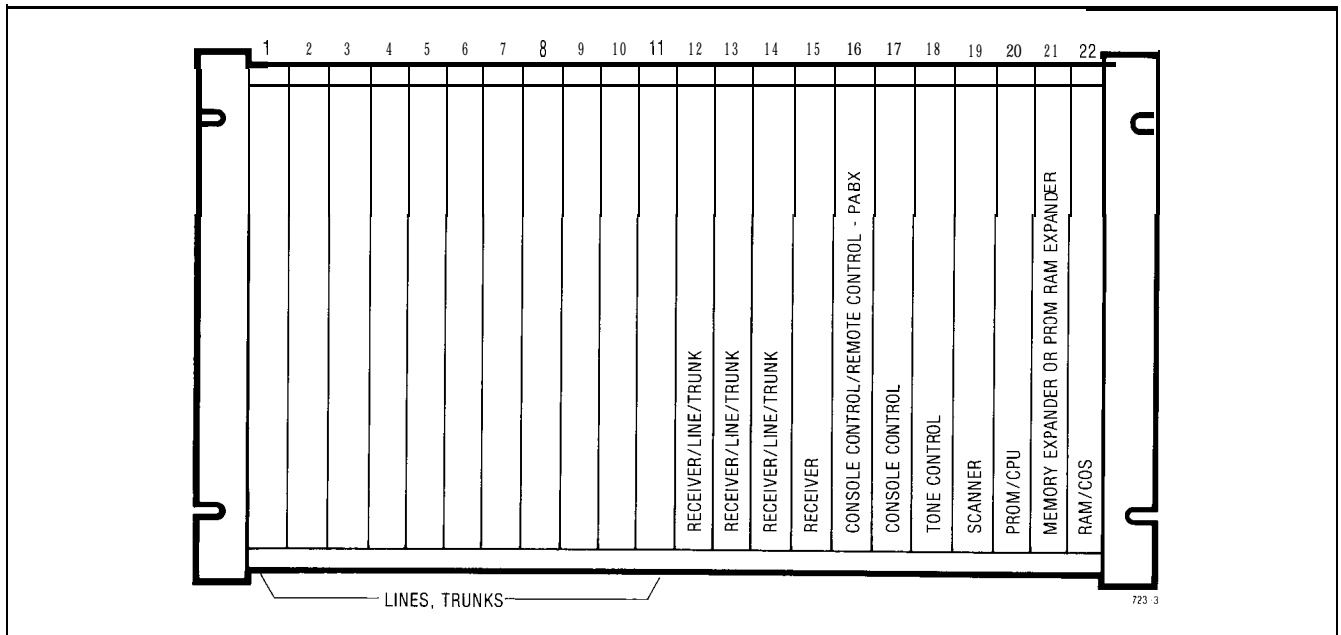

Fig. 3-1 Equipment Shelf
3.05 The equipment shelf contains the five common control cards plus the required number of line, console, trunk, and receiver cards. The common control cards are color coded and held in card positions 18 through 21. These card positions are fixed for all systems. Card positions 1 through 17 may be equipped with line, console, trunk or receiver cards as shown in Figure 3-1.